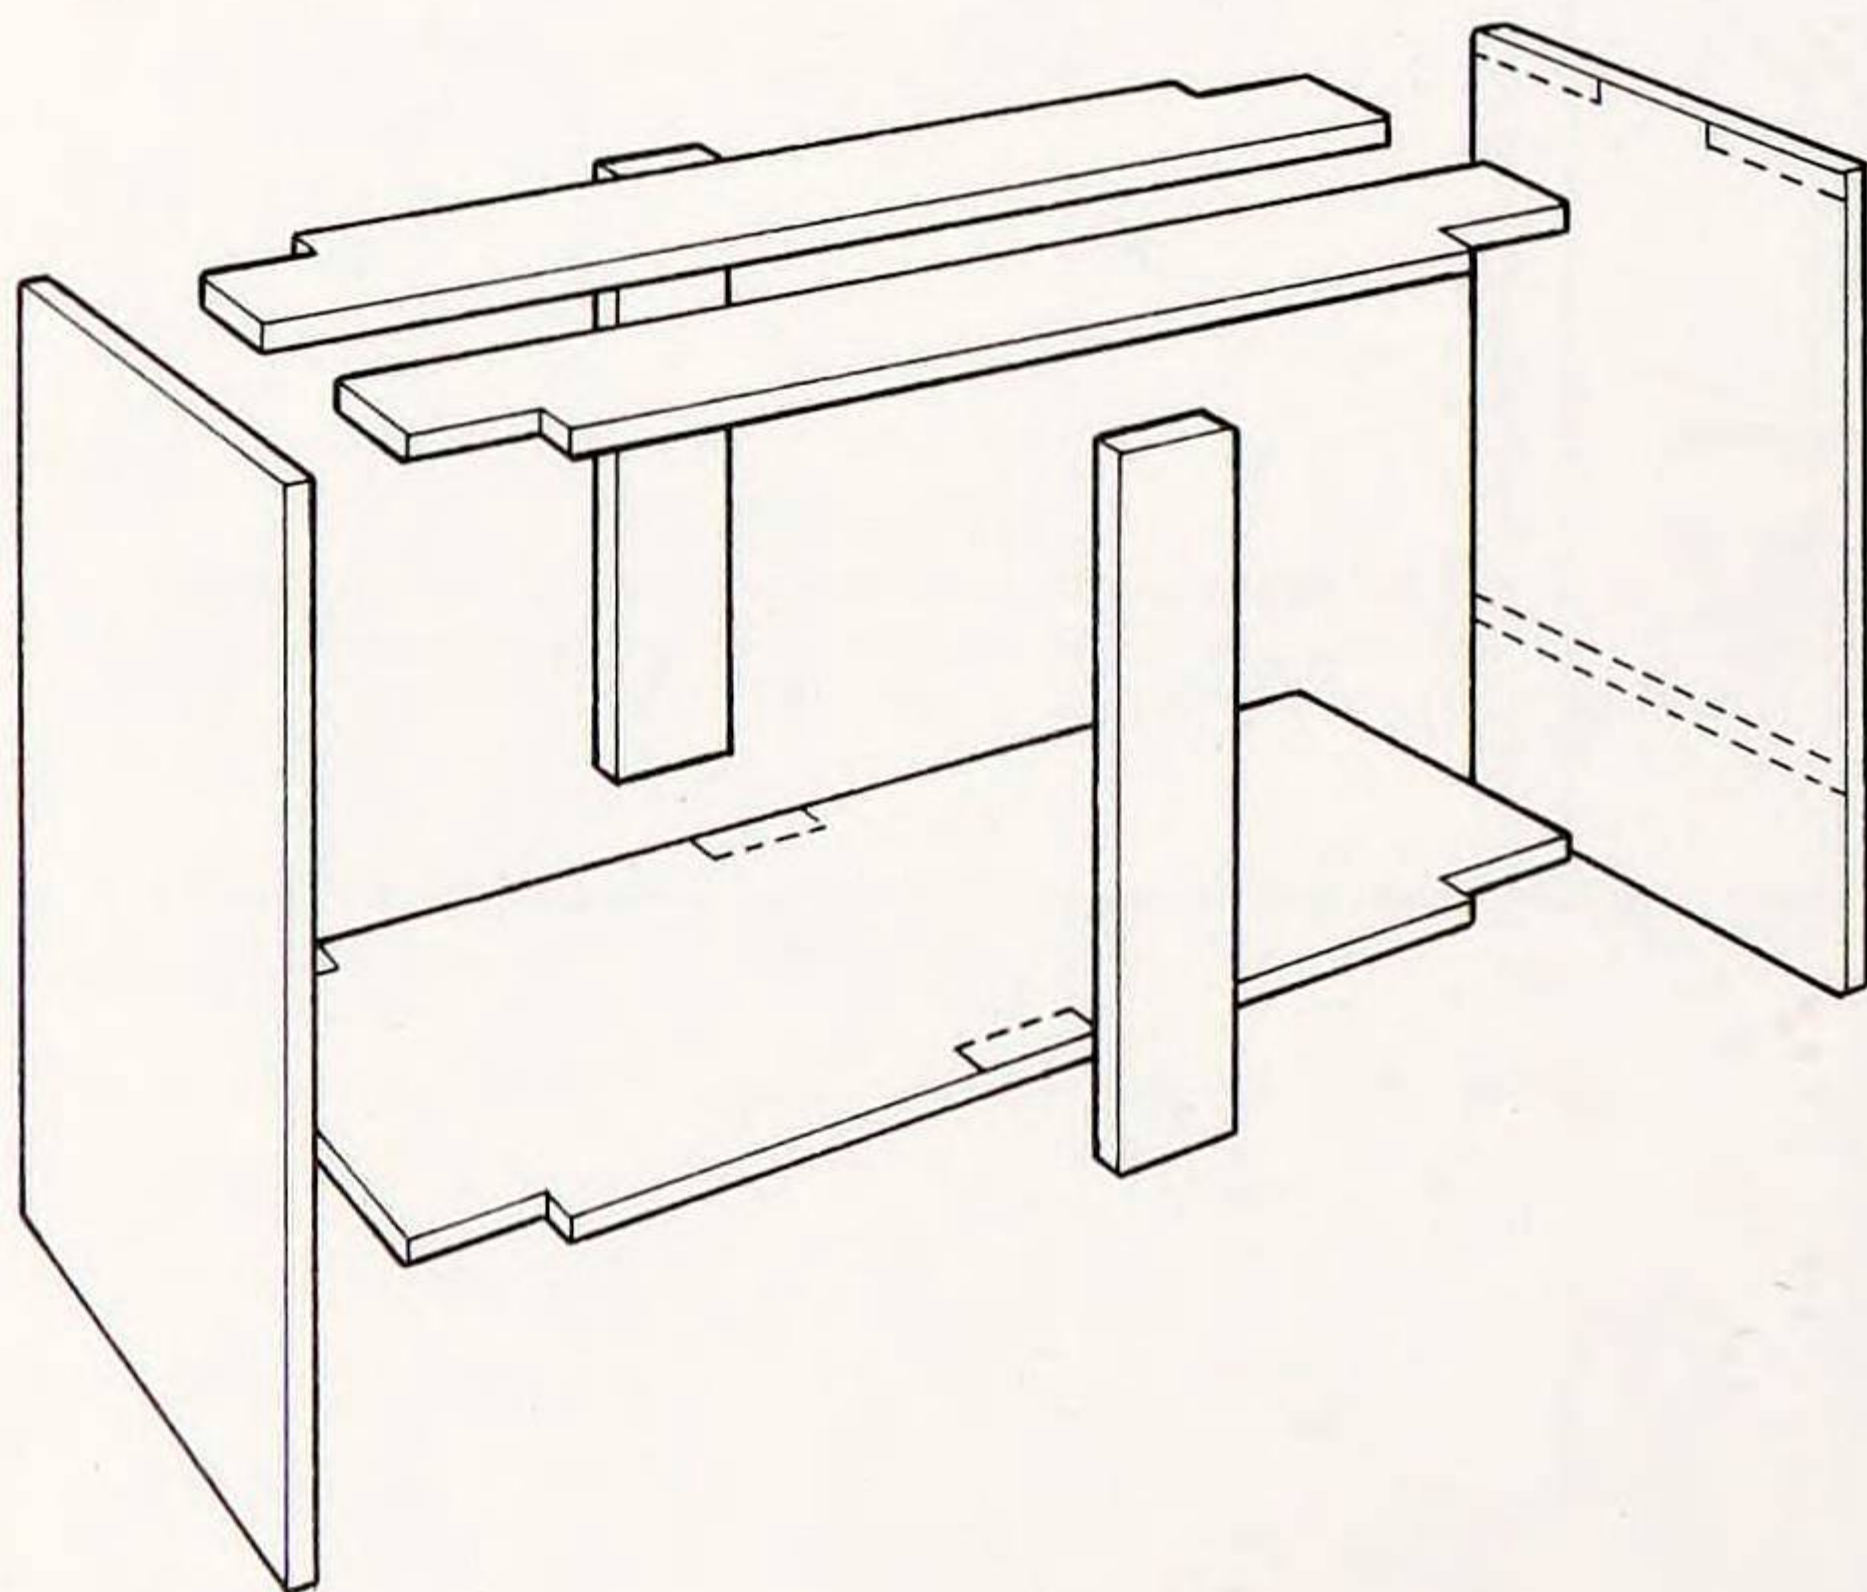

Fig. 1 Components needed for the main frame
1. Prepare all the components and cut them to size (a main frame, four gates, one top and two drop leaves). The main frame (Fig. 1) is composed of two ends, one